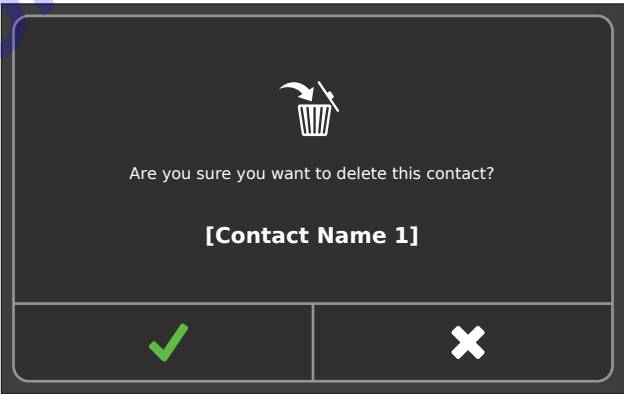

Figure 39 – Confirm CONTACT INFO Deletion
5. From the confirmation pop-up, touch the CONFIRM button to delete the information or the CANCEL button to cancel the request (Figure 39).